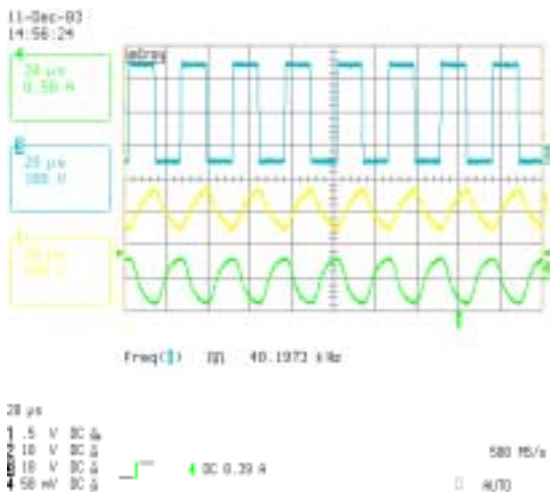

Figure 6.3:
Figure 6.3 shows the VS (HB) Voltage, the lamp voltage and the lamp current during Run Mode.